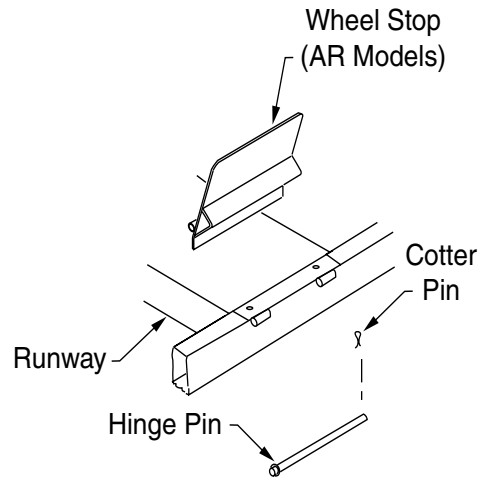
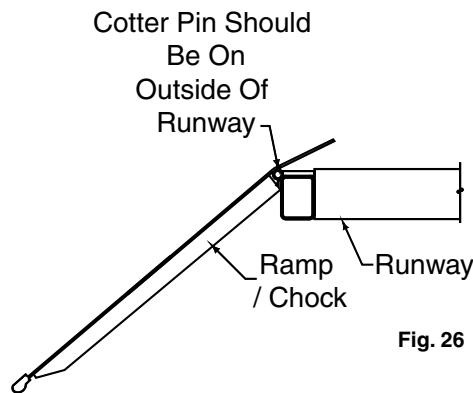

Fig. 25
Fig. 26
- 17. Assemble ramp/chocks and wheel stops to runways using hinge pins, cotter pins, and runway bolts. Ramp/chocks go on rear, Fig. 26, and wheel stops go on front of runway, Fig. 25.